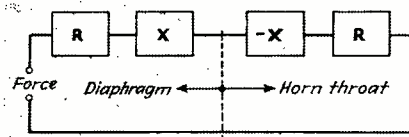

Fig. 1—Conjugate impedance matching in horn loud speakers
The condition for maximum power transfer between diaphragm and medium requires that the impedance looking from the diaphragm into the medium be the conjugate of that seen looking back into the diaphragm. By conjugate is meant that the resistive components are equal, and that the reactances are equal in magnitude but opposite in sign as indicated in Fig. 1. Thus, the circuit effectively consists of two resistors in series since the net reactance is zero. In direct radiator speakers this ideal condition is approached only at resonance, for the moving system impedance is normally very much higher than that of the air load. Therefore direct radiator loud speakers are essentially low efficiency devices because of impedance mismatch.
**Fig. 1—Monitor for frequency-modulation radio station. This unit measures the center-frequency deviation with or without modulation as well as the percentage modulation. It contains a modulation limiter flasher, high fidelity audio frequency output, and temperature controlled piezoelectric crystal**